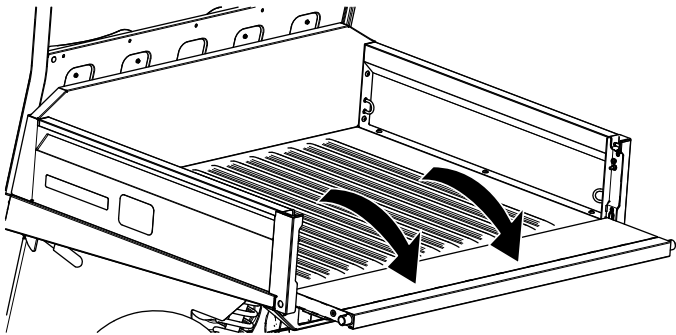

Figure 51
3. Lower the tailgate until it is flush with the bottom of the cargo bed (Figure 51).